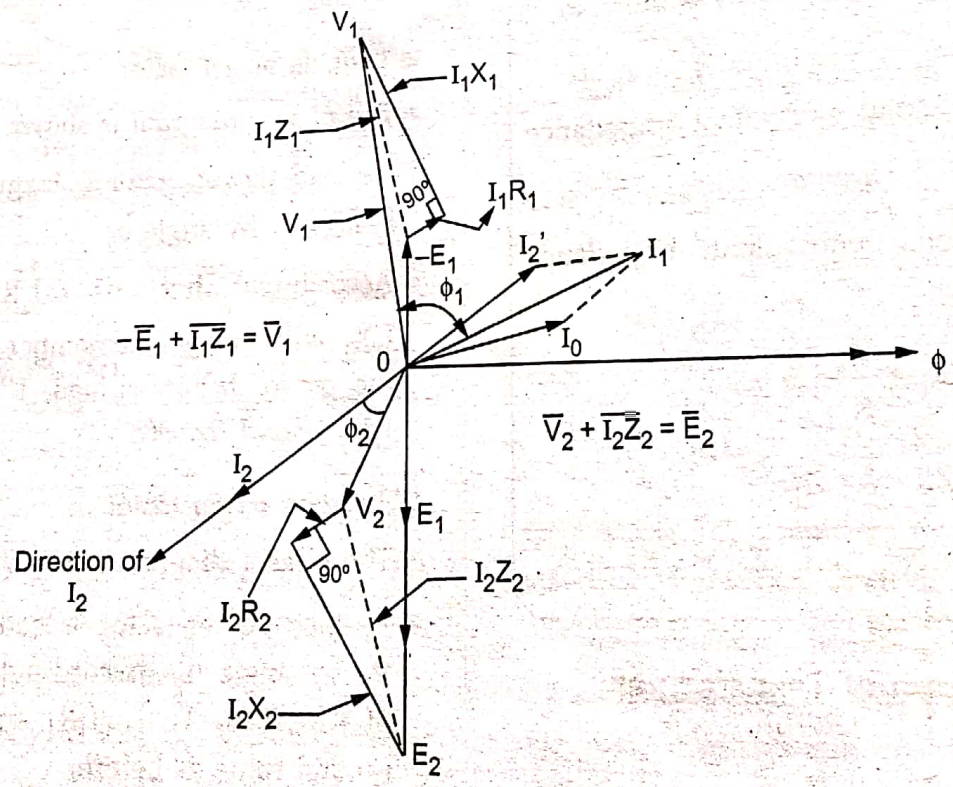

Fig. Q.15.2 Phasor diagram for lagging power factor load
- The phasor diagram is shown in the Fig. Q.15.2.